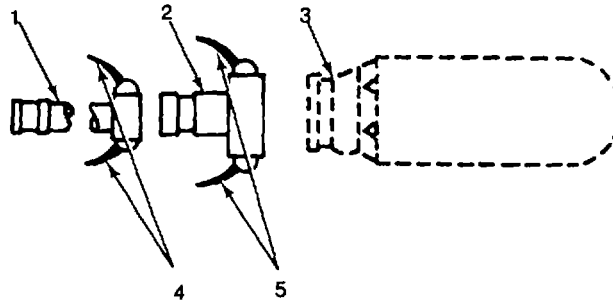

Figure 2-22. Tank, Reducer and Hose Assembly
- (2) Push cam arms (4, Figure 2-22) on female end of reducer (2) forward to open position.